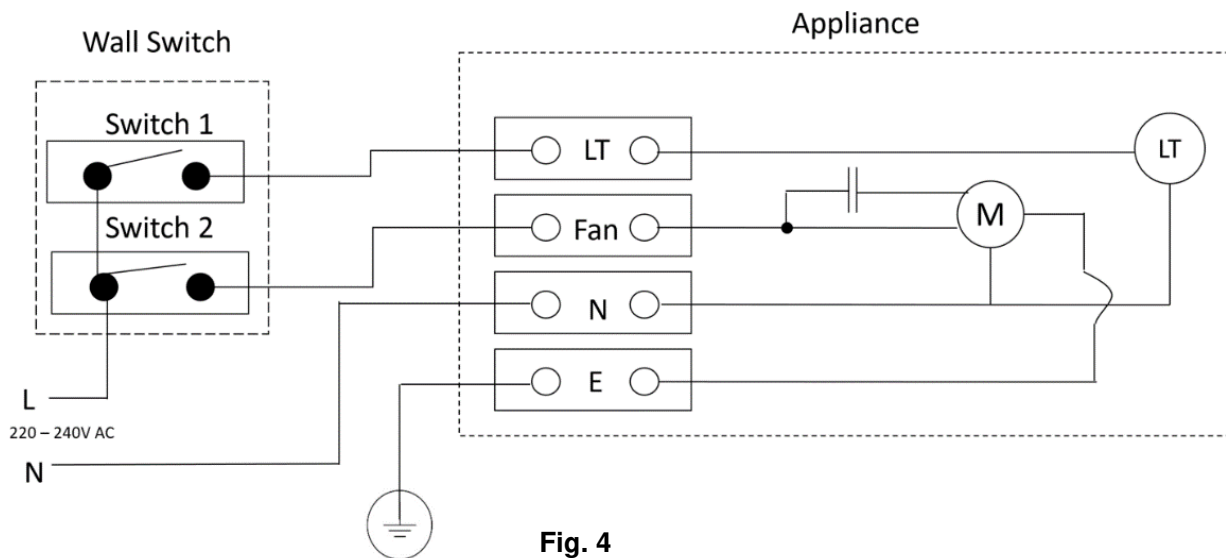

Fig. 4
NOTE: Switch off the main power before commencing the below installation. Please check if the installation location has access to the wall switches. Refer to the circuit diagram (Fig.4) for more details for connection of the wirings.
4. Connect the wiring onto the terminals according to the wiring diagram (Fig.3.4 & Fig.4)